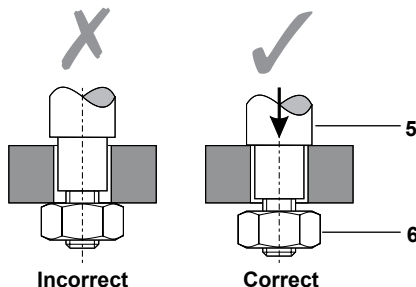

Fig. 4
- Remove the actuator retaining nut (2) from the valve and place the mounting flange (1) over the valve bonnet.
- Refit the actuator retaining nut (2) and tighten to torque of 250 N m.
- Screw the valve linkage (3) onto the valve stem at least one thread diameter and loosely tighten the stem lock-nut (4).
- Fit 4 off pillars (5) and retain with nuts (6, see Fig. 4), tighten to 300 N m
- Screw the anti-rotation plate (7) onto the actuator stem until the stem is engaged at least one thread diameter. Tighten lock-nut (11) M20 to 400 N m, M36 to 1000 N m.
- Align the anti-rotation plate over the pillars and lower the actuator onto the pillars, ensuring the pillars are fully engaged and clearance exists between the anti-rotation plate (7) and the valve linkage (3).
- Fit and tighten pillar nuts (see Fig. 4) to a torque of 300 N m.